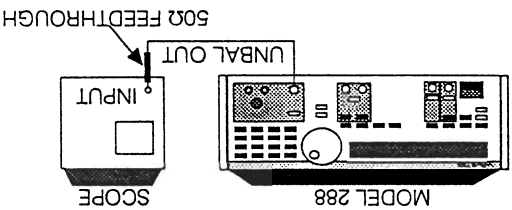

Figure 5-2. Square Wave Adjust Setup
- Connect the test equipment as shown in figure 5-2.